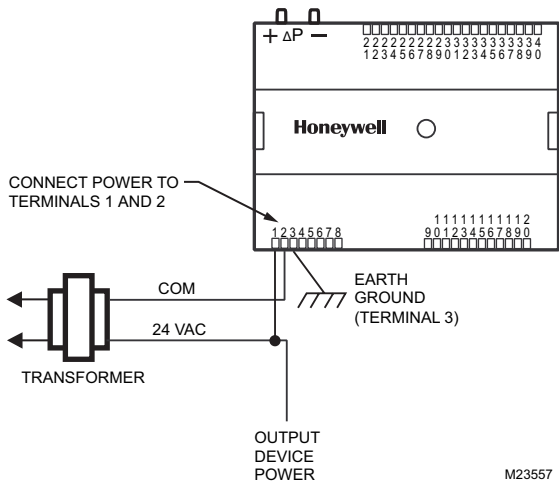
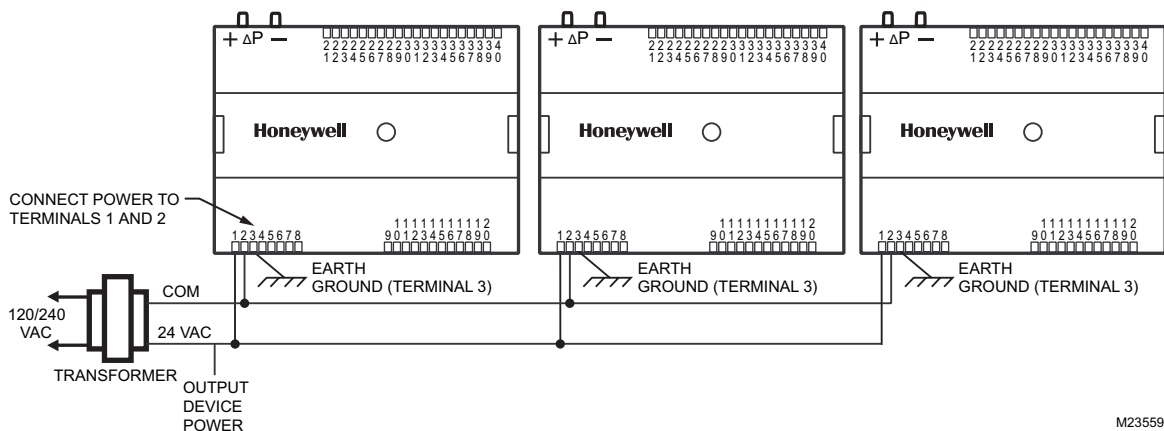

Fig. 9. Power wiring details for one controller per transformer.
Fig. 11. Power wiring details for two or more controllers per transformer.
- When multiple controllers operate from a single transformer, connect the same side of the transformer secondary to the same power input terminal in each device. The earth ground terminal (terminal 3) must be connected to a verified earth ground for each controller in the group. See Fig. 11 on page 10.
See Fig. 9–Fig. 11 on page 10 for illustrations of controller power wiring. See Table 4 for VA ratings of various devices.
- For multiple controllers operating from a single transformer, the same side of the transformer secondary must be connected to the same power input terminal in each device. The earth ground terminal must be connected to a verified earth ground for each controller in the group. See Fig. 11 on page 10. Controller configurations are not necessarily limited to two devices. But the total power draw, including accessories, cannot exceed 100 VA when powered by the same transformer (U.S. only).
- Keep the earth ground connection wire run as short as possible. Refer to Fig. 9–Fig. 11 on page 10.
- Do not connect earth ground to the controller’s digital or analog ground terminals. Refer to Fig. 9 and Fig. 11 on page 10.
- For multiple controllers operating from a single transformer, the same side of the transformer secondary must be connected to the same power input terminal in each controller. (Controller configurations will not necessarily be limited to three devices. But the total power draw, including accessories, can not exceed 100 VA when powered by the same transformer (U.S. only). For power and wiring recommendations—See “Power” on page 7. The earth ground terminal (terminal 3) must be connected to a verified earth ground for each controller in the group. See Fig. 11 on page 10.
Fig. 9 on page 10 depicts a single controller using one transformer.
More than one controller can be powered by a single transformer. Fig. 11 shows power wiring details for multiple controllers.